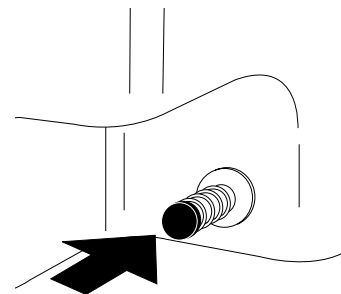

Fig. 2A
2. Insert the drainage tube onto the spout (Fig. 2A).